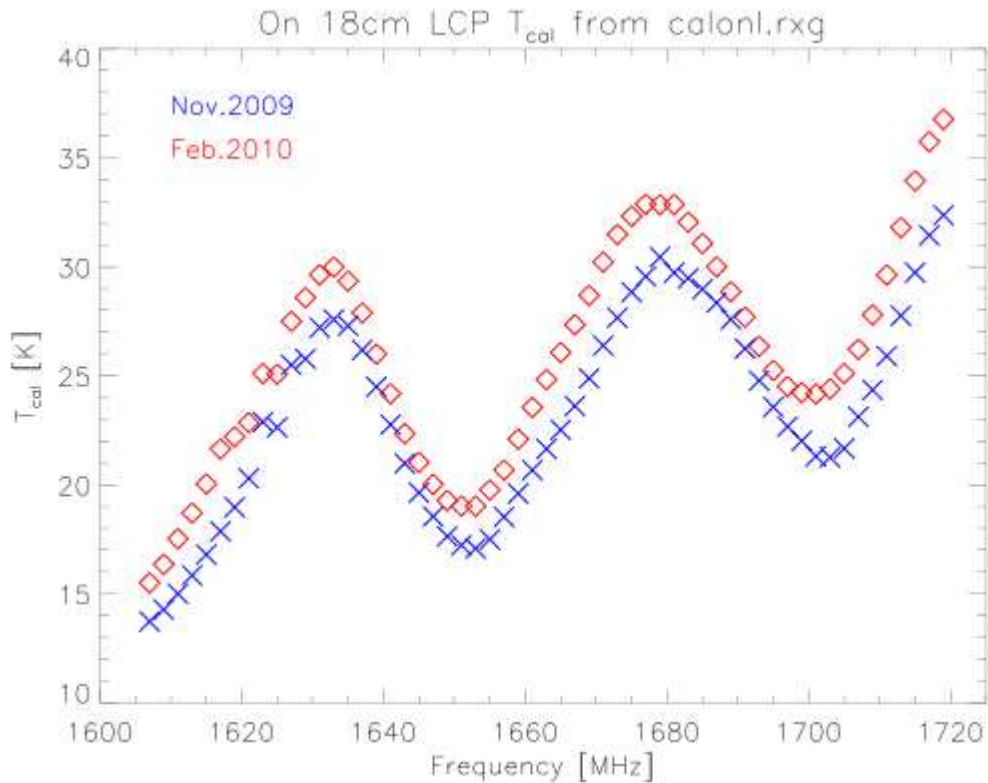

Figure 1: $T_{r_{mcal}}$ for On 18 cm LCP.
- T_{cal} can be function of frequency and time (see Fig. 1).